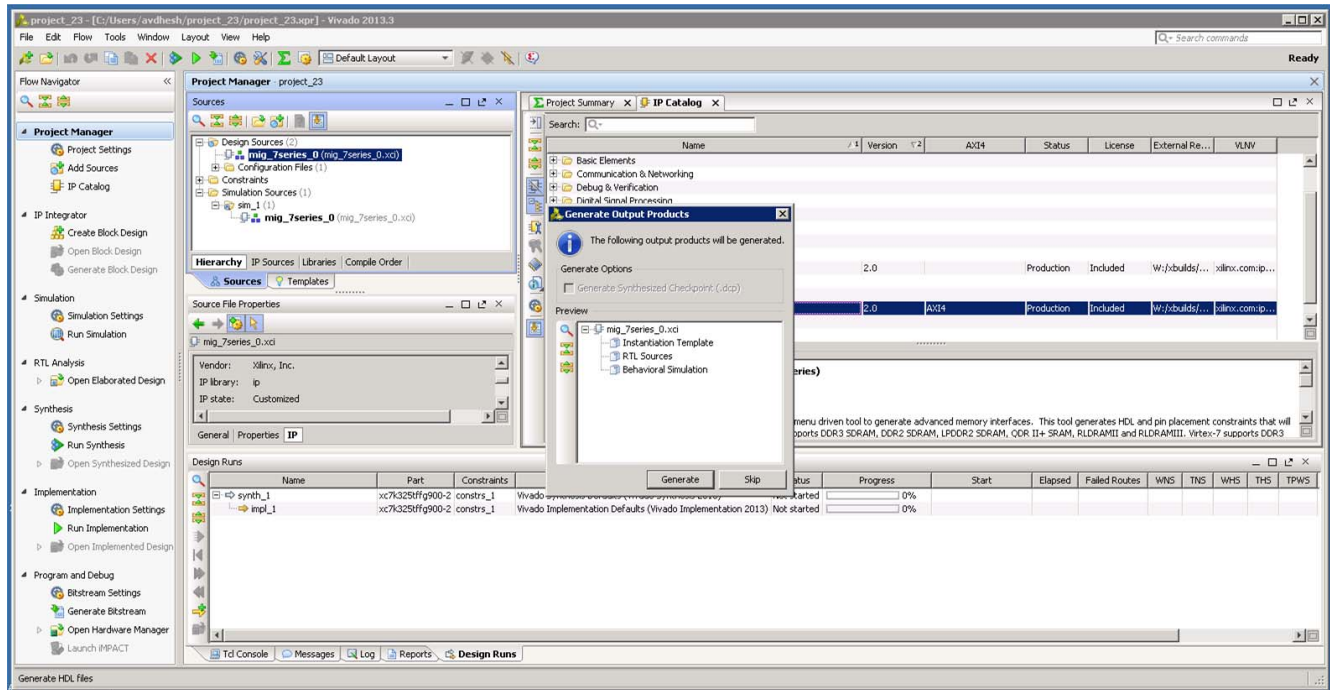

Figure 5-24: Generate Window
7. Clicking **Generate Output Products** option brings up the **Manage Outputs** window (Figure 5-24).